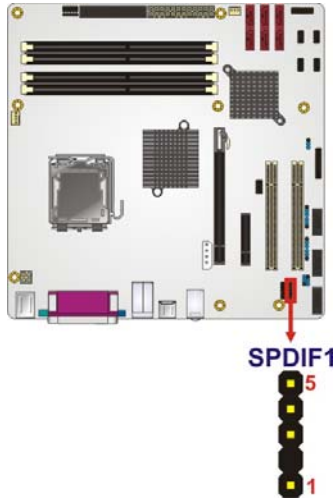

Figure 3-14: SPDIF Connector Location
- CN Location:** See **Figure 3-14**